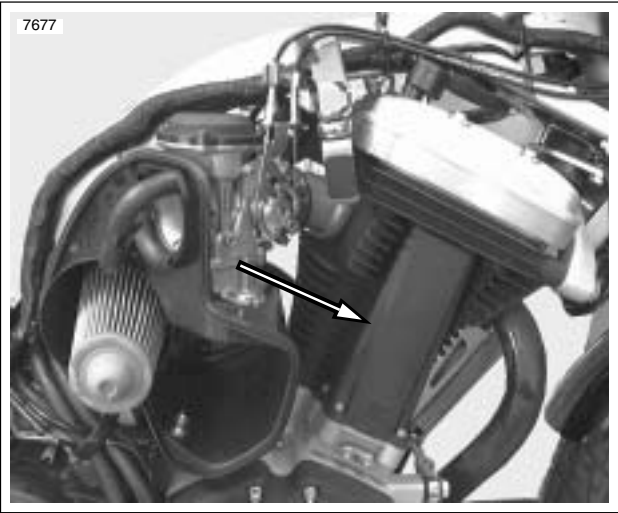

Figure 3-64. Push Rod Location
- 1. See Figure 3-64. Install push rod cover.
- a. Install **new** o-rings (2) on top of each push rod cover (3).
- b. Install **new** push rod cover gasket (5) onto bottom of each push rod cover.
- c. Install push rod cover assembly and start the four fasteners (4) securing bottom of cover to crankcase.